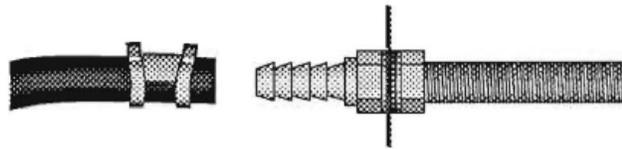

fig. 8
- H. Push the tubing onto the stem, covering all the barbs (Figure 8).